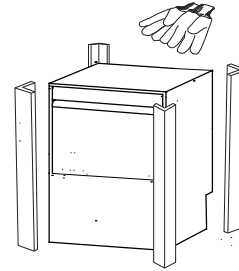

Fig.1
- 1- Wear protective gloves to unpack the appliance from the box. (Fig. 1)